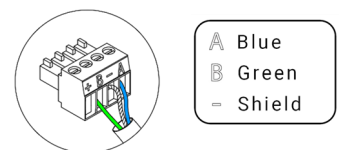

Fig. 66
It has a 5-pin terminal to connect it to the AC unit bus of the main board ②. Attach the wires with the terminal screws following the color code (Fig. 66). Use the shield only on the connector of the main control board.